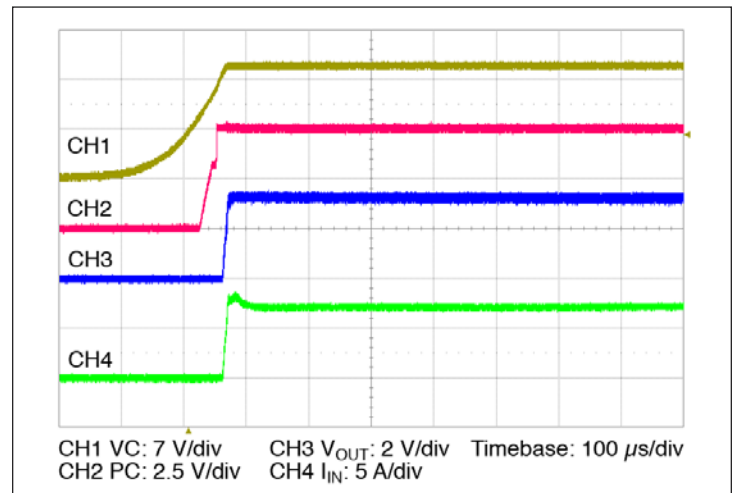

Figure 14 — Start up from application of VC;  $V_{IN}$  pre-applied  $C_{OUT} = 0 \mu\text{F}$
- **Stand Alone Operation (VC applied after VIN):** In this case the module output will begin to rise upon the application of the VC voltage (See Figure 14). The Adaptive Soft Start circuit (See Section 10) may vary the output rate of rise in order to limit the inrush current to its maximum level. When starting into high capacitance, or a short, the output current will be limited for a maximum of 900 µsec. After this period, the adaptive soft start circuit will time out and the module may shut down. No restart will be attempted until VC is re-applied, or PC is toggled. The maximum output capacitance is limited to 4000 µF in this mode of operation to ensure a successful start.